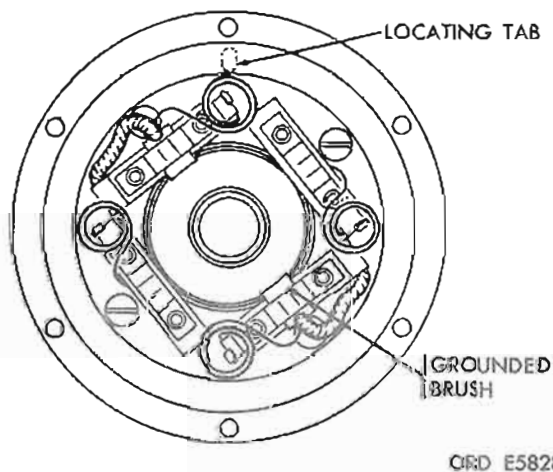

Figure 7-10. Grounded brush location.
b. Note position of grounded brush in relation to locating tab on outside of commutator end head. Whether a new plate is installed on assembly or old plate replaced, one of the grounded brushes must be in position shown (fig. 7-10).
(3) Check insulated brush holders with continuity tester for grounds and discard plate assembly if grounds are present. Install brush retainer plate on head; refer to figure 7-10 for correct position. Apply red glyptol (RX 1820) to insulation, soldered connections, and exposed metal surfaces on inner face of assembly, except brush leads, brush contact surfaces, and 1 3/8-inch minimum diameter area at thrust washer surface. When dry, cover red glyptol with RX 3335 varnish. Allow to dry before assembly.